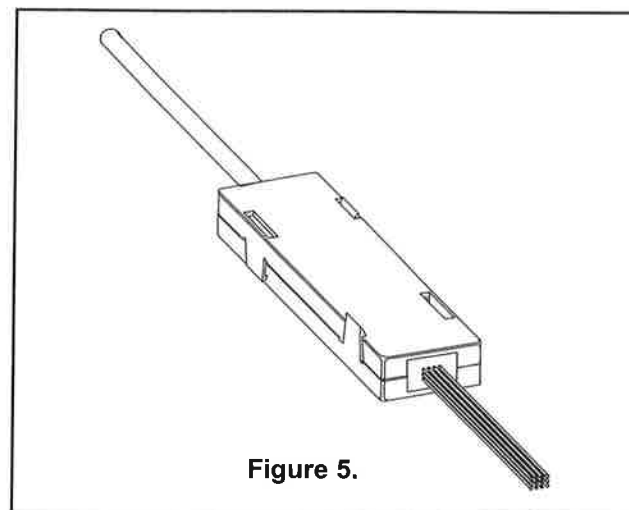

Figure 5.
- 7.9 Place the terminal assembly into the bottom of the splitter kit. Align the top cover and snap into place (see figure 5).